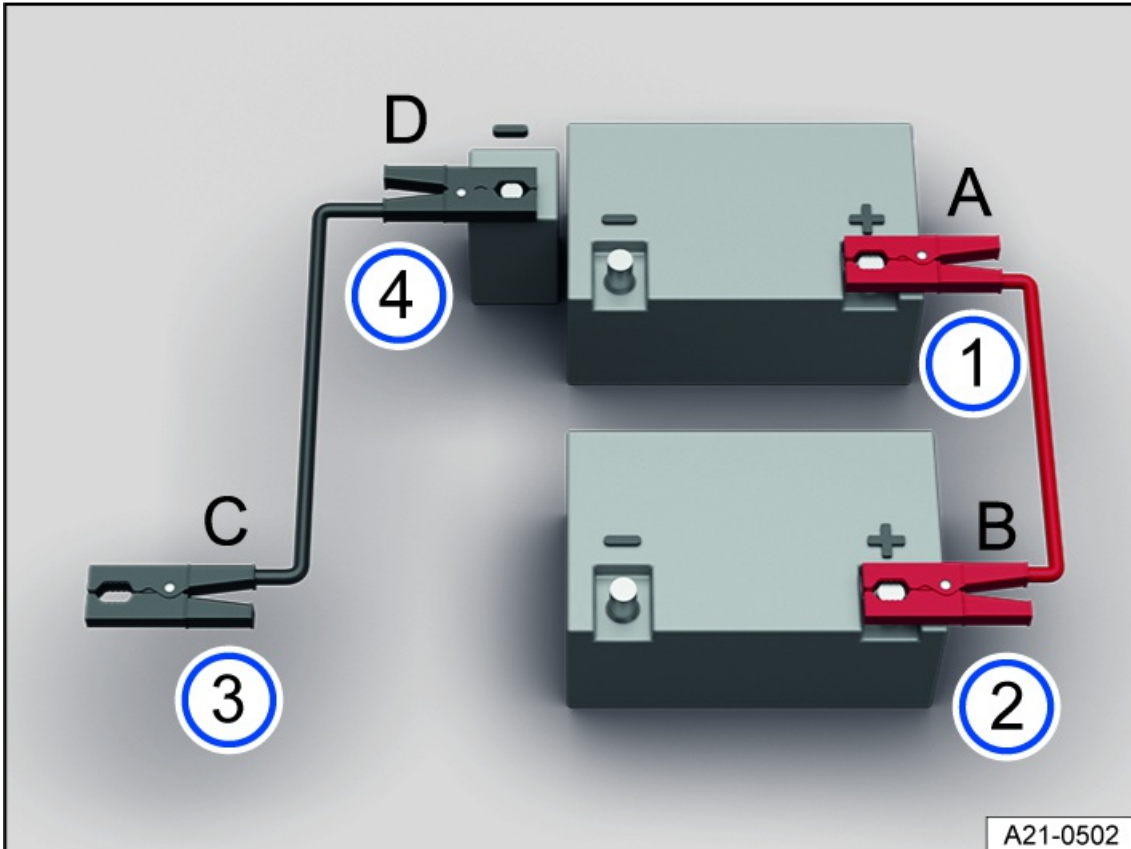

Fig. 159 Diagram for connecting the jumper cables.
Only connect the jumper cables in the sequence A – B – C – D *fig. 159*.
3. Connect one end of the red jumper cable to the positive battery terminal + of the discharged 12 V vehicle battery *fig. 159* ①.
4. Connect the other end of the red jumper cable to the positive battery terminal (+) on the vehicle providing current *fig. 159* ②.
5. Connect one end of the black jumper cable to a negative terminal jump-start point – on the vehicle providing current *fig. 159* ③.
Or: if no negative terminal jump-start point – is available, connect to a large metal part that is bolted securely to the engine block or connect to the engine block itself *fig. 159* ③.
6. Connect the other end of the black jumper cable to the negative terminal jump-start point – on the vehicle receiving the jump-start *fig. 159* ④.